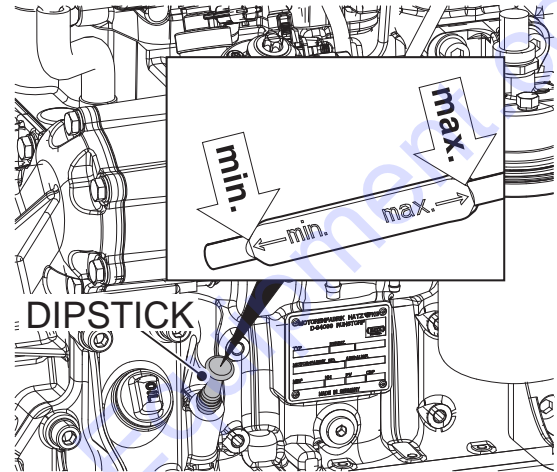

Figure 44. Checking Engine Oil Level
- Pull the engine oil dipstick (Figure 44) from its holder and wipe it clean.
- Pull out the dipstick and check the oil level. The oil should be between the 'min.' mark and the 'max.' mark (Figure 44) on the dipstick.